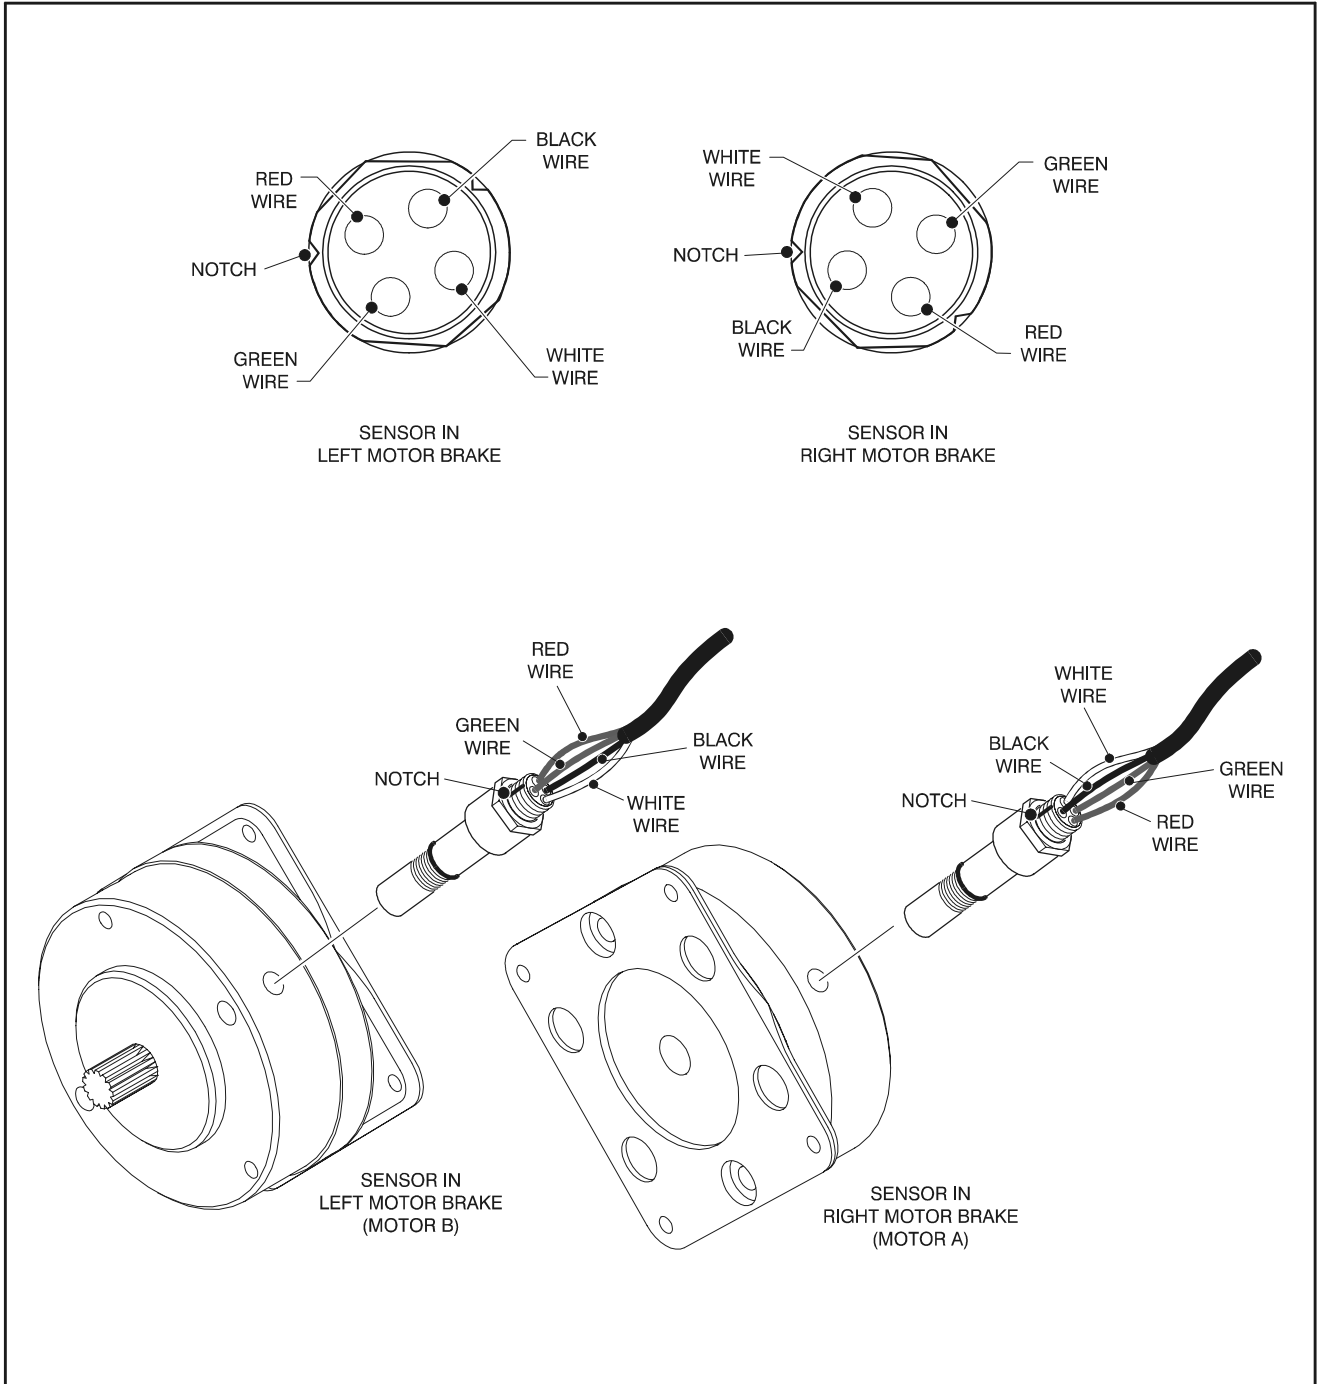

Figure 2-37. Speed Sensor Orientation
3. Back-off 1-2 turns and align the notch with the axis of the brake. Refer to Figure 2-37., Speed Sensor Orientation.